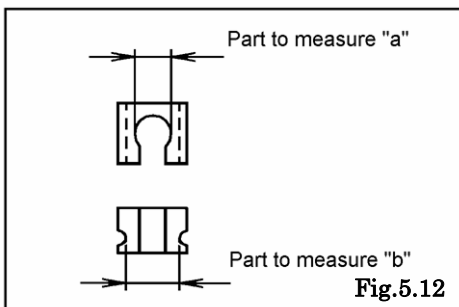

Fig.5.12
- Interlocking bush [Fig.5.12]